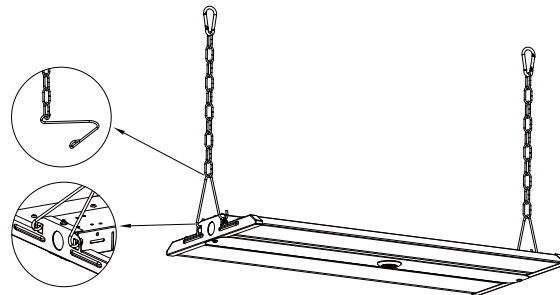

Figure 1
- Step1. Hook up the chain; (Figure 1)
- Step2. Connect the chain with fixture; (Figure 1)
- step3. Fix the chain on the rail, adjust the chain length as per need; (Figure 1)